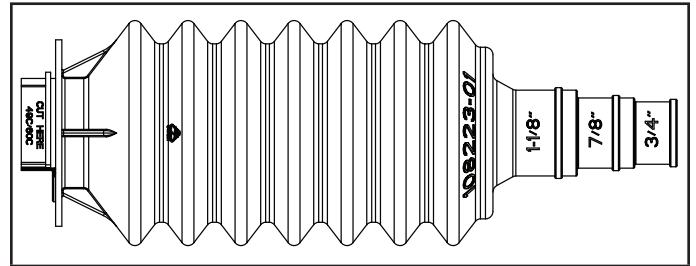

FIGURE 3. Suction Line Set Joint Sleeve
- 2 - Determine the refrigerant suction line size. For suction lines of 7/8" or 1-1/8", trim the smaller end of the larger line set joint sleeve accordingly to accommodate the refrigerant piping (see figure 3).
NOTE – For size 60C, cut off marked section on line set joint sleeve (see figure 3)